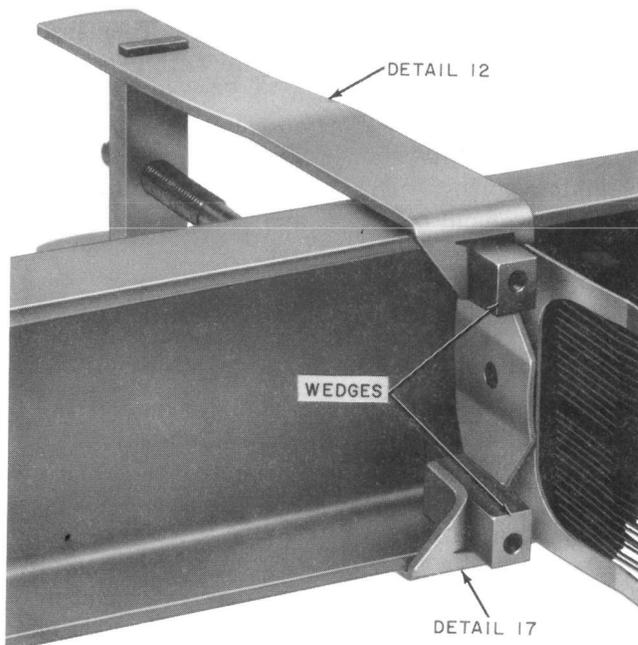

Fig. 18—Wedges in Place With Details 12 and 17
- (b) Use the detail wedge inserter to force details 20 through 33 wedges of sufficient thickness to compress the relay clamping spring between the spring and the wedge supports as shown in Fig. 18.